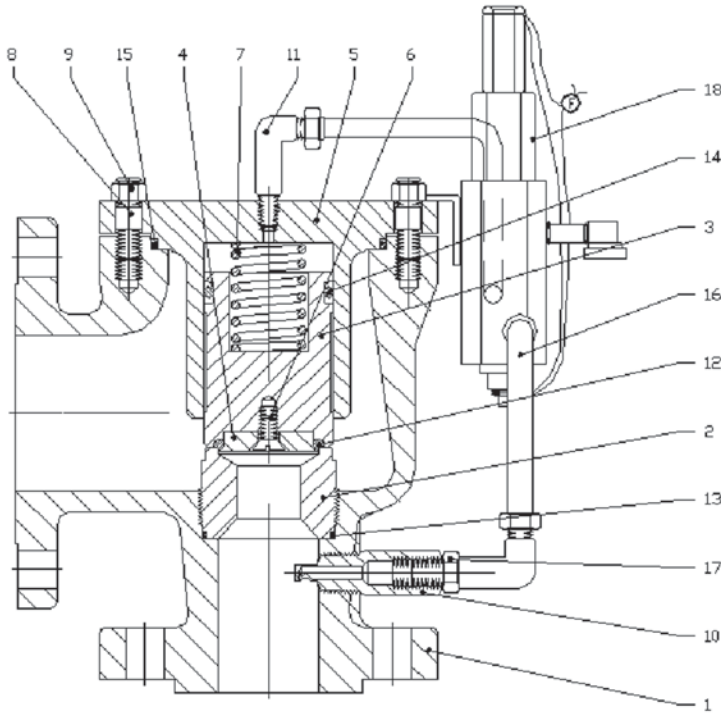

Figure 5.1 Main Valve (1", 1-1/2" & 2" Inlet)
For 1", 1-1/2" and 2" inlet size (Figure 5.1):
1. Refer to Figure 5.1 for construction details.